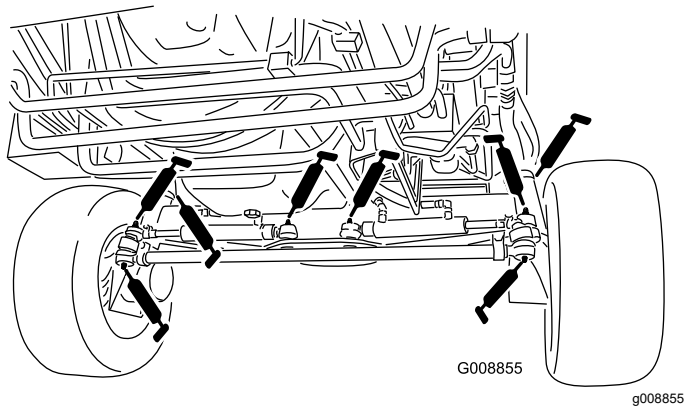

Figure 81
- 4 steering-cylinder-ball joints (Figure 81)
- 2 tie-rod-ball joints (Figure 81)
- 2 king-pin bushings (Figure 81)